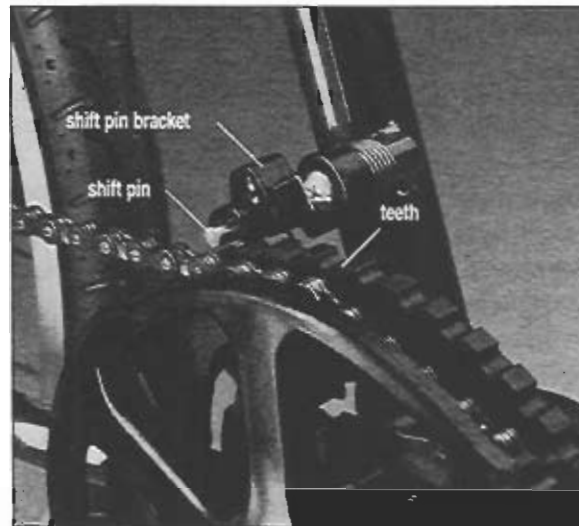

Figure 1
1. The radial gear system normally requires few if any adjustments. However, if the shift lever requires an excessively long thumbstroke to trigger shifting, the adjustment barrel located above the shift pin bracket can be turned counterclockwise to narrow the gap between the shift pin and the teeth. The gap should be no less than 1/16" as shown in Figure 1.